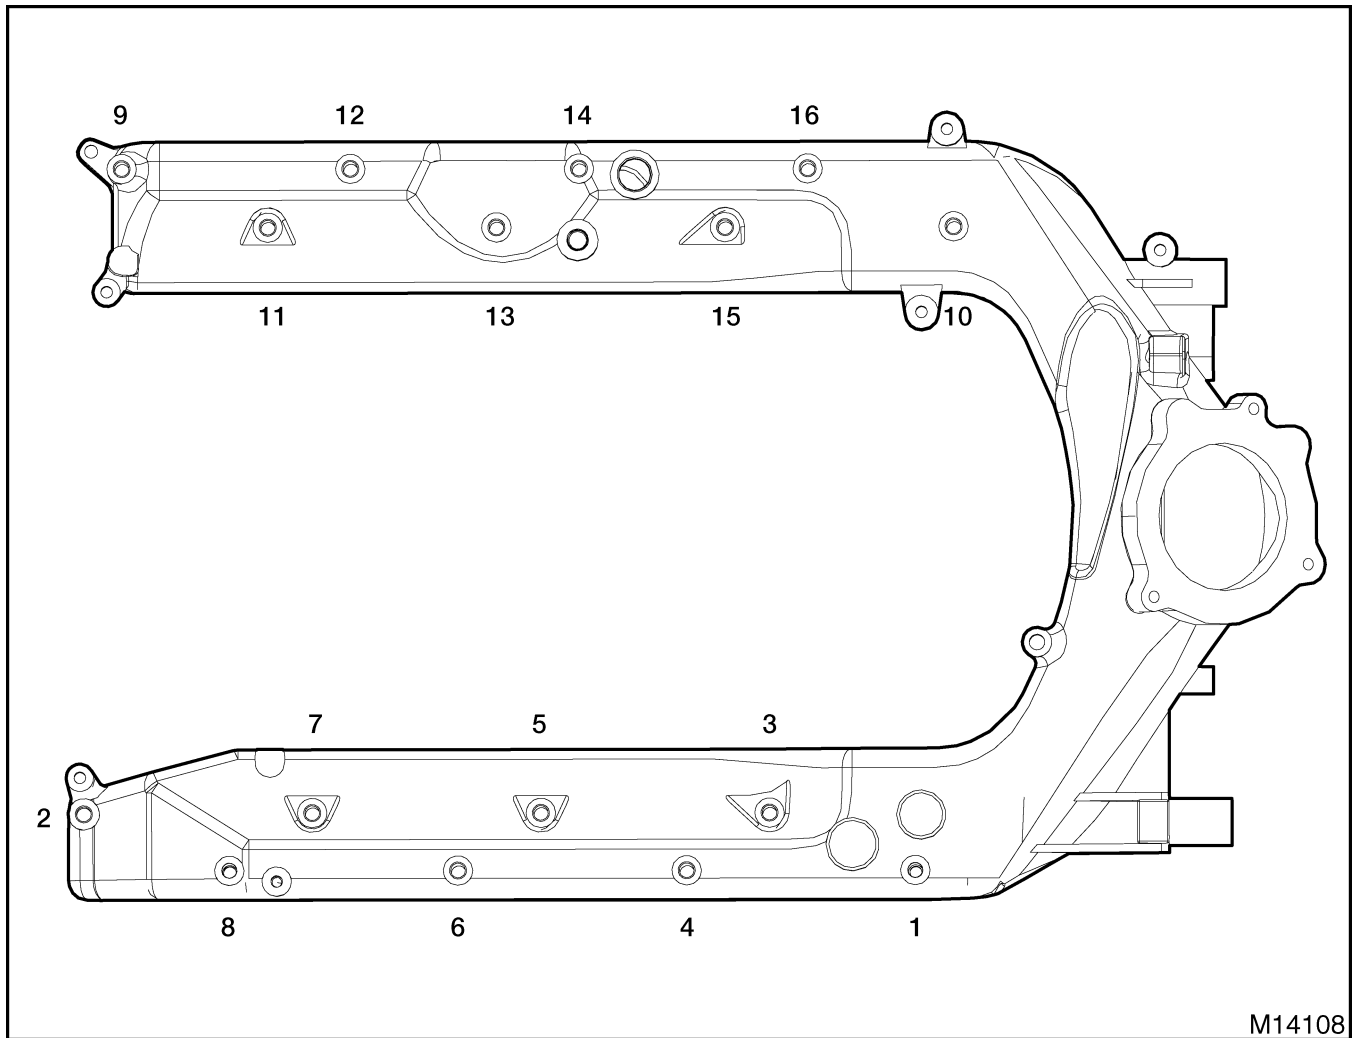

Figure 291 Torque sequence for intake manifold mounting bolts
6. Tighten intake manifold bolts and intake manifold stud bolts to special torque (page 184), following sequence (Figure 291).